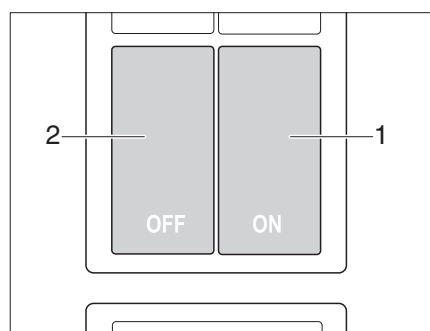

Fig. 117 Switch for the kitchen unit's central locking system
The kitchen unit is equipped with a central locking system. The flaps and drawers of the kitchen block can be locked and unlocked manually via the switch (Fig. 117). Also see chapter 4.10.
- Press the switch ON (Fig. 117,1). The flaps and drawers of the kitchen block are locked.
- Press the switch OFF (Fig. 117,2). The flaps and drawers of the kitchen block are unlocked.